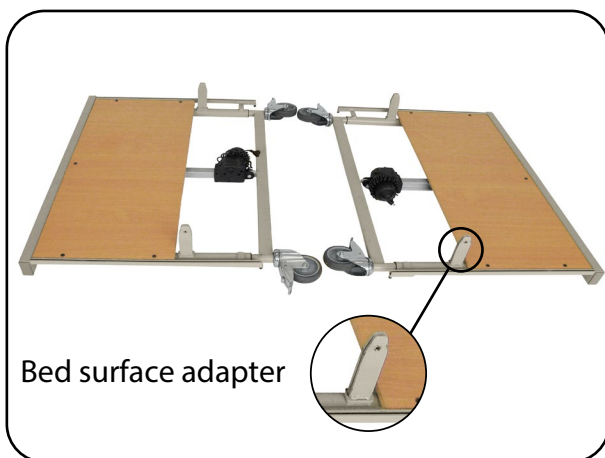

Fig. 6.1.01 – Stand parts
1. Position the castors parallel to the stand part and lock the arresters (see the section **Castors** in the chapter on Operation). Lie the stand parts on the floor with the bed surface adapters pointing upwards (Fig. 6.1.01).